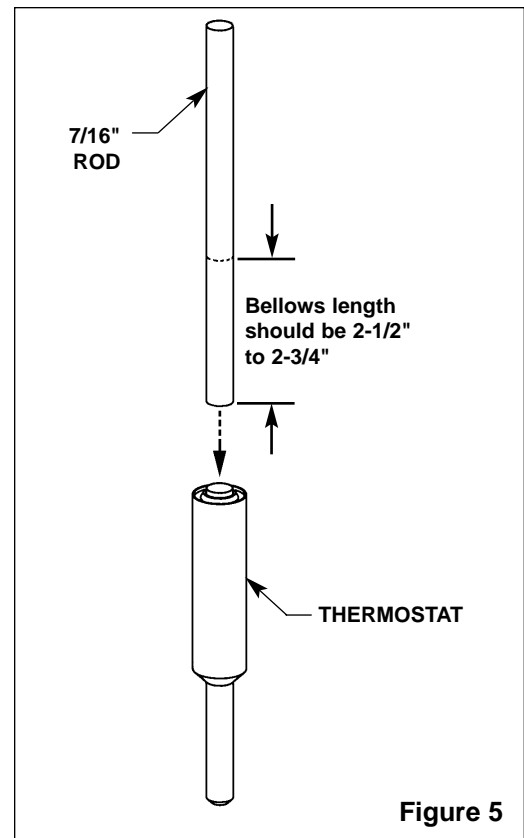

Figure 5
2. Insert a 7/16" dia. rod into the thermostat bellows. Mark the length of the rod inside the bellows (see Figure 5).
3. Use a marking pen to mark the thermostat bellows length (at room temperature, with 10 lb. of force, the bellows length should be approximately 2.6") (see Figure 5).